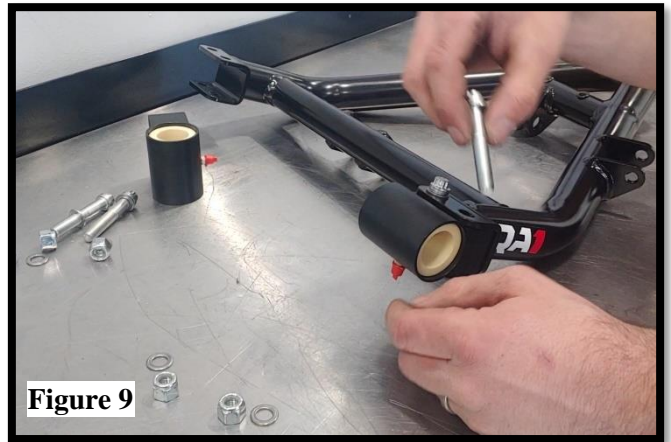

Figure 9
8. Loosely install the bushing housings to the lower control arm with the grease fittings facing down. the included 12-point 3/8" hardware with two washers and nyloc nut per connection. The bushing mount hardware should only be torqued to 44 lb. ft. after the control arm is installed to the crossmember. **(Figure 9)**